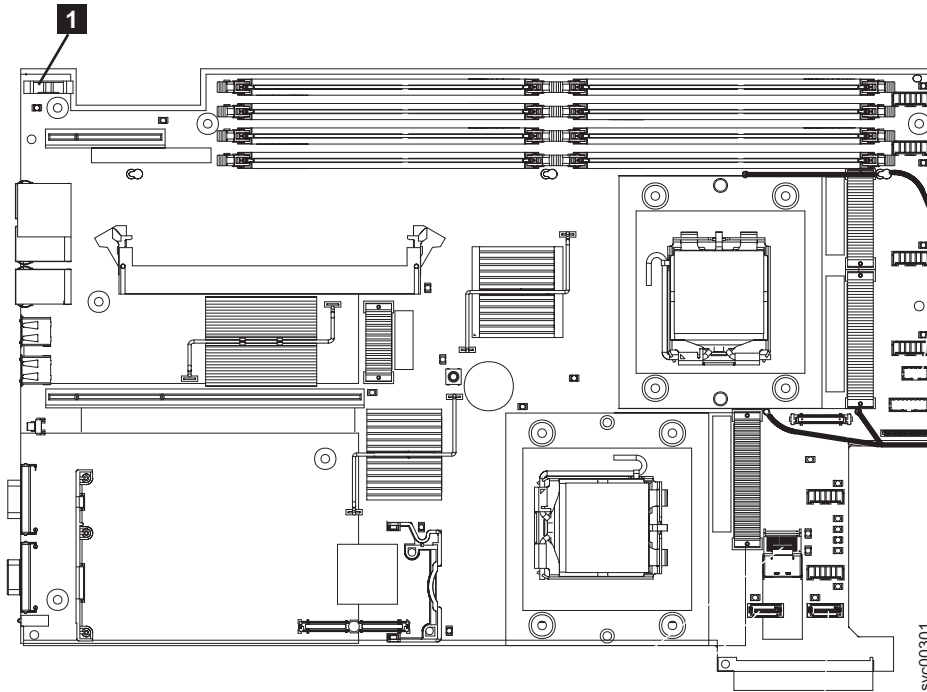

Figure 135. Location of the SAN Volume Controller 2145-8G4 CMOS battery holder
4. Locate the battery **1** on the system board. Figure 135 shows the location of the battery.